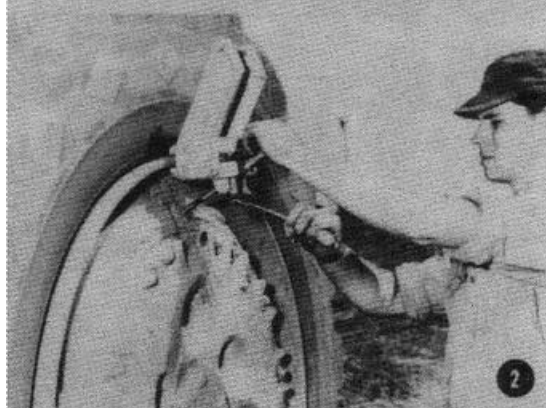

Figure 2.
2. Securely tighten adjusting screws at bottom of jaws. Set hand screw against lock ring and adjust until jaw assembly is in a right angle position to the plane of the flange (fig. 2)